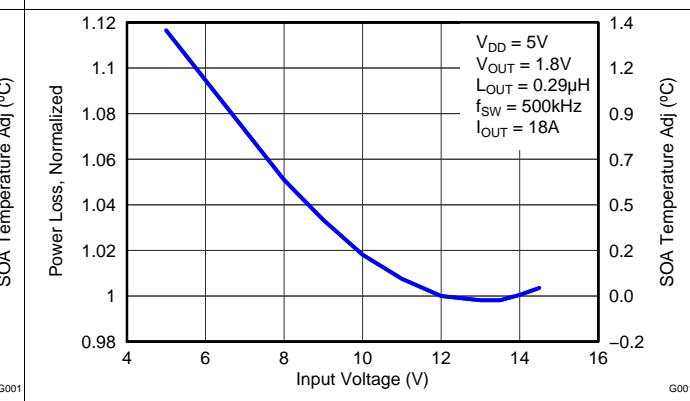

Figure 6. Normalized Power Loss vs Input Voltage
- Normalized Power Loss for input voltage \approx 1.05 (Figure 6)
- SOA adjustment for input voltage \approx 0.6C (Figure 6)